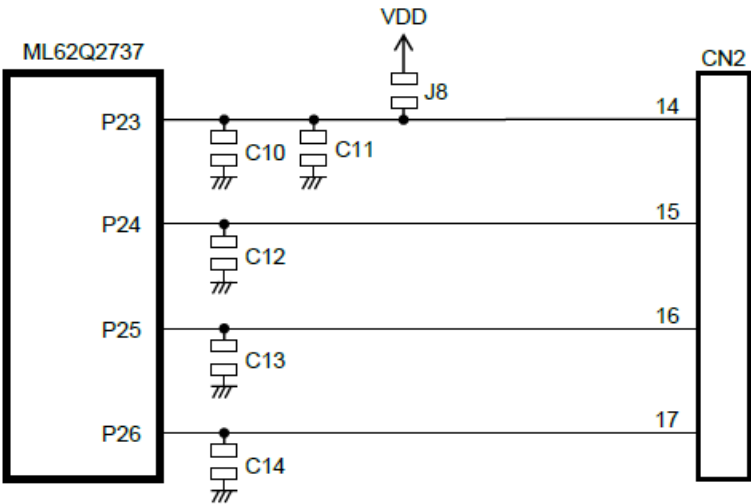

Fig. 6 P23, P24, P25, P26 Circuit
- Fig. 6 shows the connection diagram.